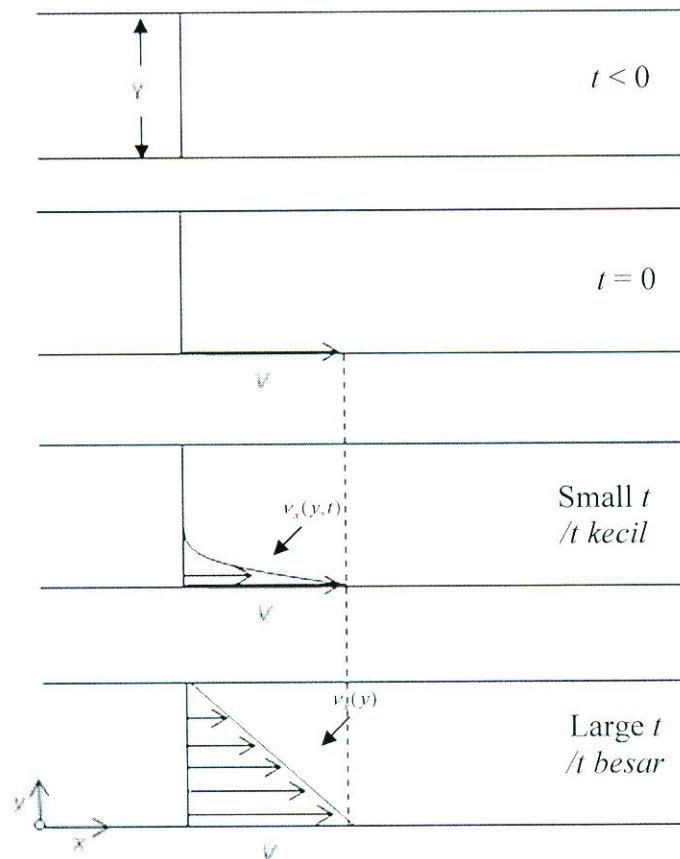

Figure 1 - The velocity profile of a fluid contained between two plates
1. [a] Briefly explain the momentum flux,  $\tau_{yx}$ . Compute the steady-state momentum flux  $\tau_{yx}$  in Pascal when the lower plate velocity  $V$ , in Figure 1 is 0.30 m/s in the positive  $x$  direction, the plate separation,  $Y$ , is 0.03 cm, and the fluid viscosity,  $\mu$ , is  $7 \times 10^{-4}$  Pa.s.